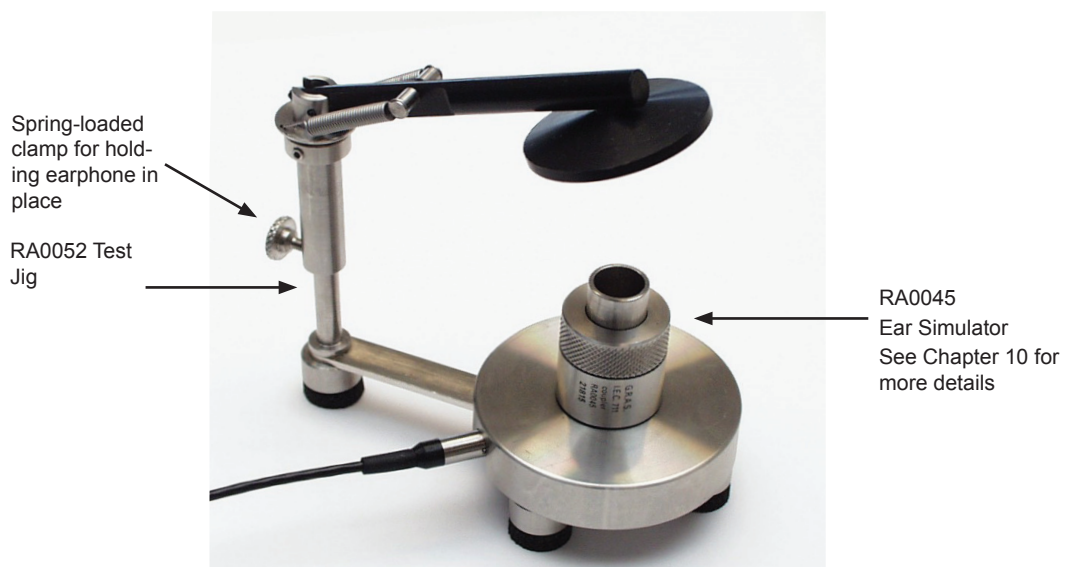
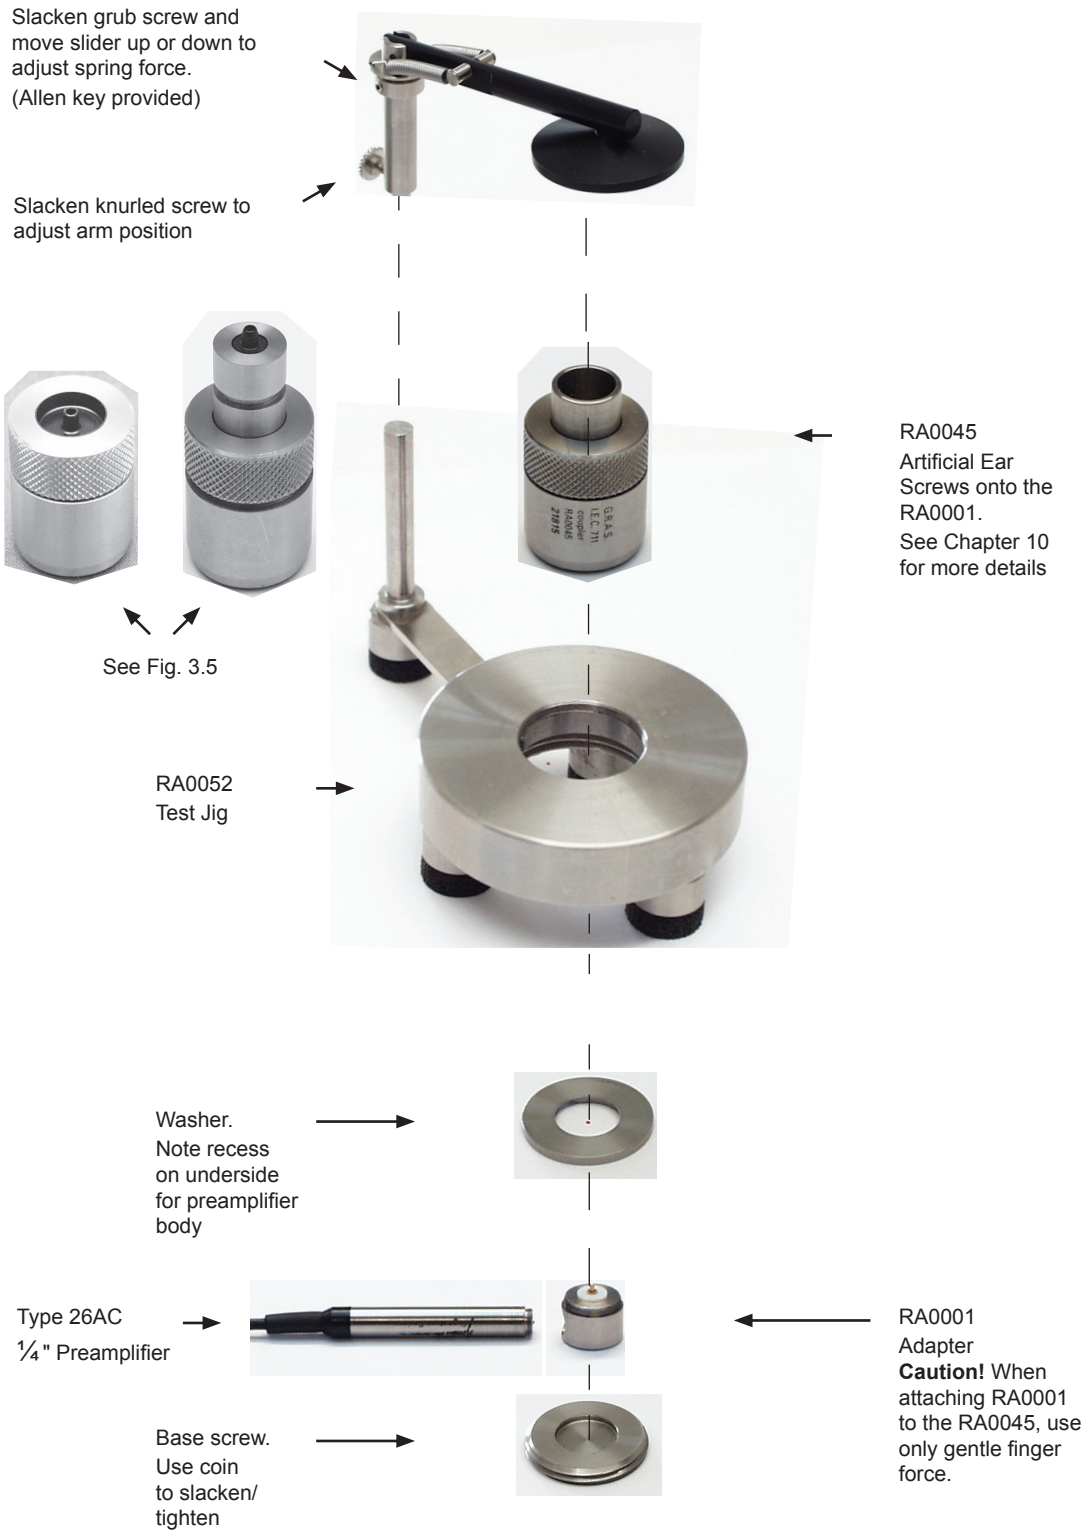

Fig. 3.1 Assembled Artificial Ear Type 43AC
Fig. 3.4 Exploded view of the user-serviceable components of the Artificial Ear Type 43AC
When assembled as shown in Fig. 3.1, it is ready for testing insert earphones. Fig. 3.4 shows an exploded view of its user-serviceable components.
- 1) Snap the spring-loaded clamp (see Fig. 3.1) to its upright position, or remove it.
For the coupler configured as shown in Fig. 3.1 (RA0045) and as described in Chapter 10, the earphone is inserted directly into the tapered opening of the GR0408 (External-ear Simulator).